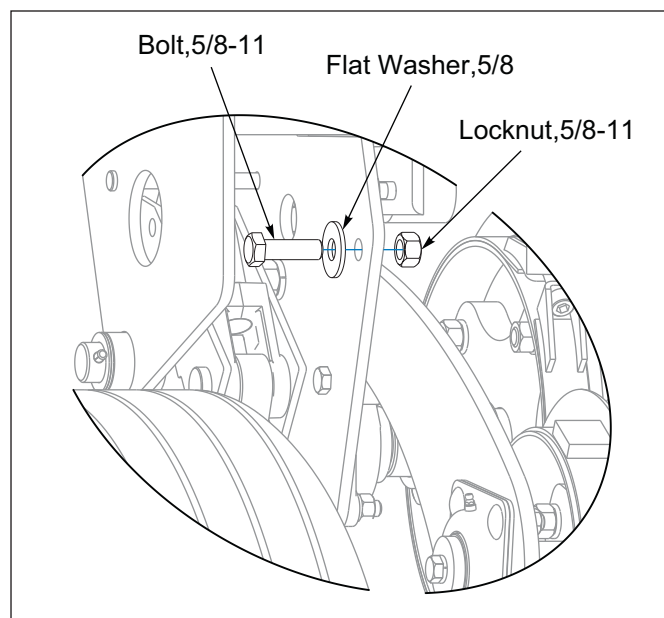

Figure 2-15: Shipping Bolt
7. Remove from the RH and LH Frame End Plate the 5/8-11 Shipping Bolts that locks the Rear Roller Arms Down. **See Figure 2-15.**